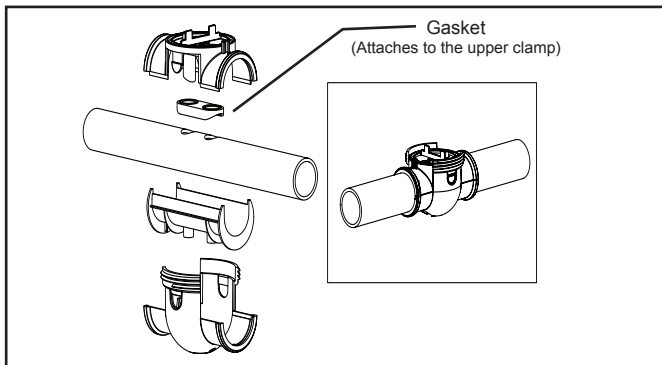
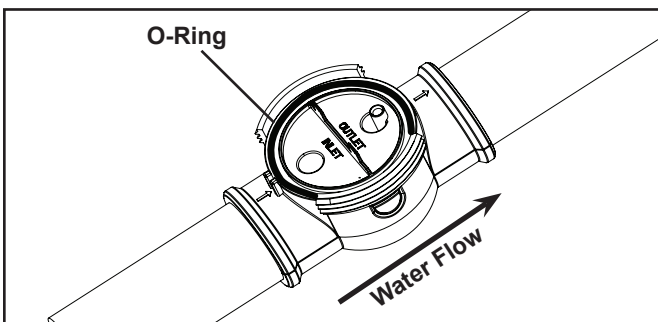

Figure 5. Attaching the Saddle Clamp
Figure 6. Water Flow Arrows
1. The replacement saddle clamp assembly will be clamped together. To install the clamp, first separate the upper and lower clamps by pressing the two (2) push-buttons on either side of the upper clamp.
3. Secure the clamps, pipe spacer (if necessary), and gasket around the pipe (see Figure 5) making sure the flow arrows on the clamp point in the direction of the water flow (see Figure 6). Make sure the two (2) clips on the sides of the clamp are snapped into place.
4. Verify the o-ring is inserted into the channel on the clamp (see Figure 6). Install the electrode.